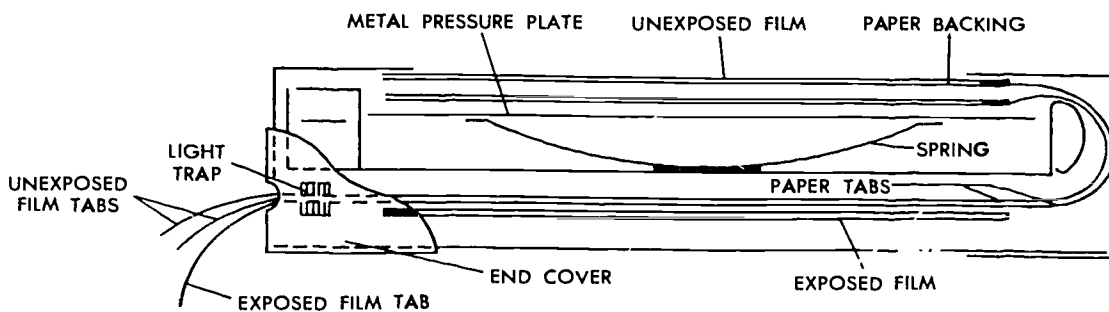

Figure 2-3. Diagram of a film pack.
Before you can use the film pack, you must remove the protective cover over the first sheet of film by pulling on the attached (0) tab. Instantly, the pressure plate pushes the first sheet of film up against the retaining frame surrounding the opening. The black paper on the back of each sheet of film protects the sheet behind it from exposure by transmitted light. After exposing the first sheet of film, pull the number 1 tab. This pulls the sheet of exposed film around the end of the film pack and positions it behind the remaining film. The diagram in figure 2-3 shows the principle of the film pack. As the first film is pulled around to the back, the second sheet is uncovered, and the pressure plate forces it into the correct position for exposure. This procedure is continued until the last piece of film has been exposed and has been pulled to the rear of the pack. As you pull the last tab, the pressure plate spring forces the pressure plate into the pack opening, creating a light-tight seal.